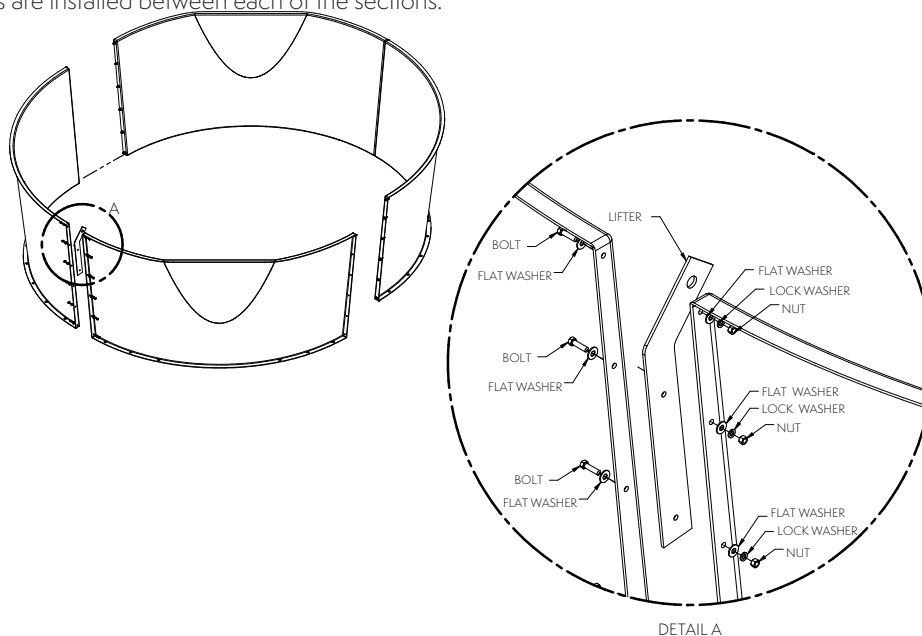

Figure 39 – Assembly of a VR Stack
Some AXS units are designed with Velocity Recovery (VR) stacks. These units are designated with a -VR suffix. The VR stack will ship disassembled in four pieces and packaged separately. Bolt all four sections together on the vertical seams as shown in **Figure 39** below. Ensure that the lifting ears are installed between each of the sections.